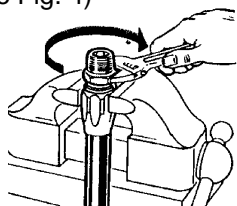

Fig. 4
4. Screw nipple clockwise into socket and hose. Leave 1/32" to 1/16" clearance between nipple hex and socket. (See Fig. 4)
5. Screw nipple clockwise into socket and hose. Leave 1/32" to 1/16" clearance between nipple hex and socket. (See Fig. 4)